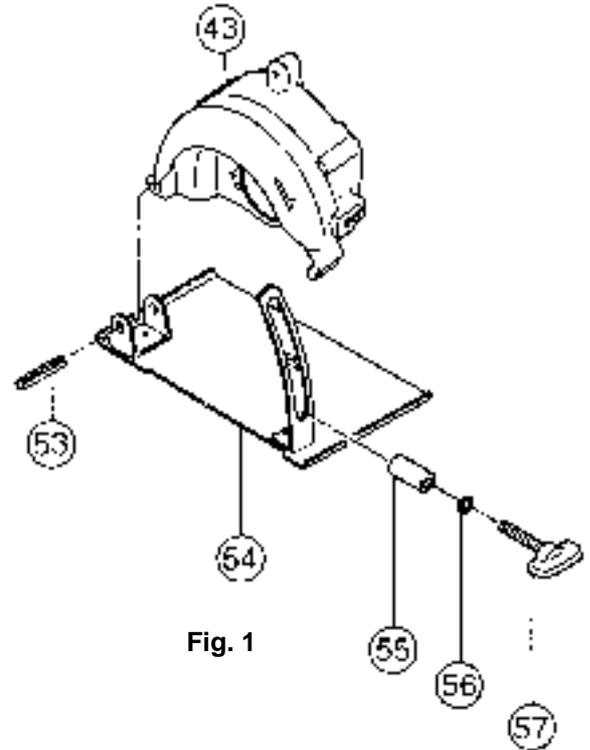

Fig. 1
#### (2) Disassembly of the gear cover and the base (Fig. 1).
- ① Loosen the three Machine Screws M5 x 25 **[21]** which fasten the Housing Ass'y **[17]** and the Gear Cover **[43]**, and remove the Gear Cover.
- ② Loosen the Wing Bolt M6 x 37 **[57]** that couples the Base **[54]** and the Gear Cover **[43]**, and take off the Spring Washer M6 **[56]** and the Sleeve **[55]**.
- ③ Next, extract the Roll Pin D6 x 32 **[53]** which fastens the Base **[54]** and the Gear Cover **[43]** and remove the Base.